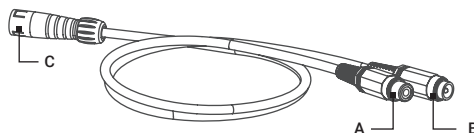

FIGURE 2-4. VIDEO CABLE
Use the video cable plug (A, Figure 2-4) to connect an external video recorder/monitor/TV to the Asp. Connect the video cable plug (C) to the Asp S620 universal connector.